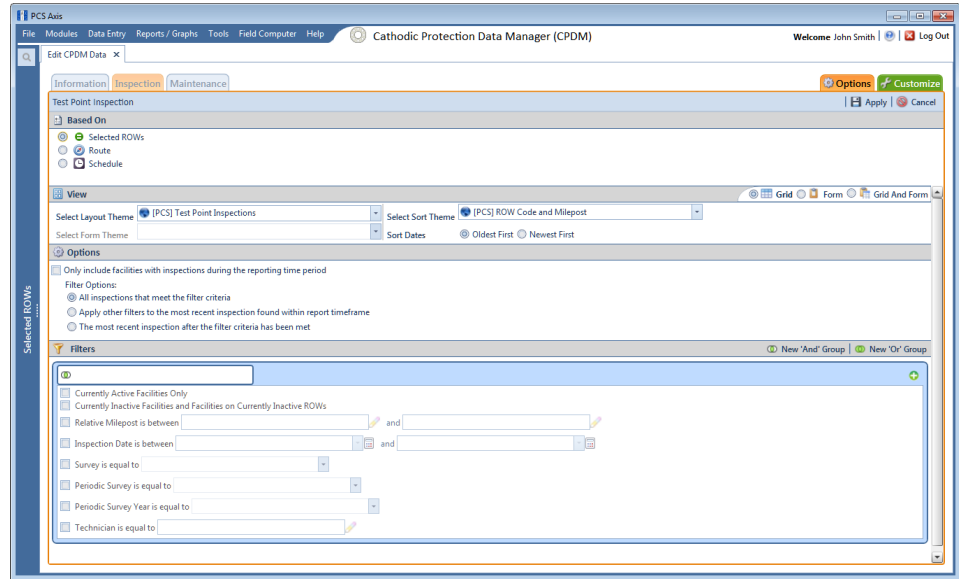

Figure 7-36. Based On Options
- b Click the **Options** tab  to open the options page. Then click the option **Selected ROWs** in the *Based On* group box (Figure 7-36).